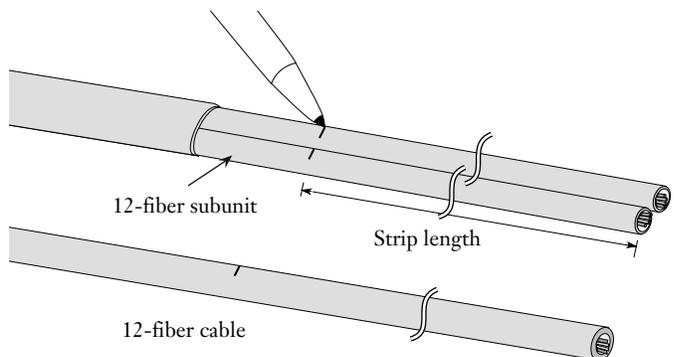

Figure 6
**4.4** Use scissors to cut the aramid yarn to the length required for cable strain relief in your installation. Trim the rip cord flush with the outer jacket (see Figure 6).
Measure and mark this length from the end of the sheath using a tape measure and a permanent marking pen (Figure 6)